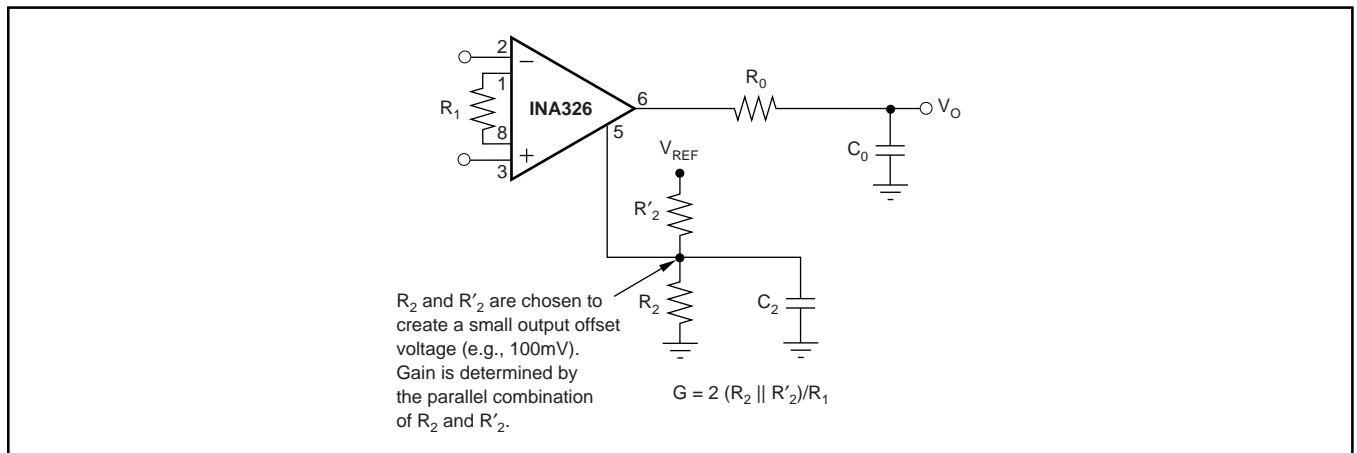

FIGURE 6. Generating Output Offset Voltage.
NOTES: (1) C₂ and C_O combine to form a 2-pole response that is -3dB at 1kHz. Each individual pole is at 1.5kHz. (2) Output voltage is referenced to I_ACOMMON (see text). (3) Output offset voltage required for measurement near zero (see Figure 6).